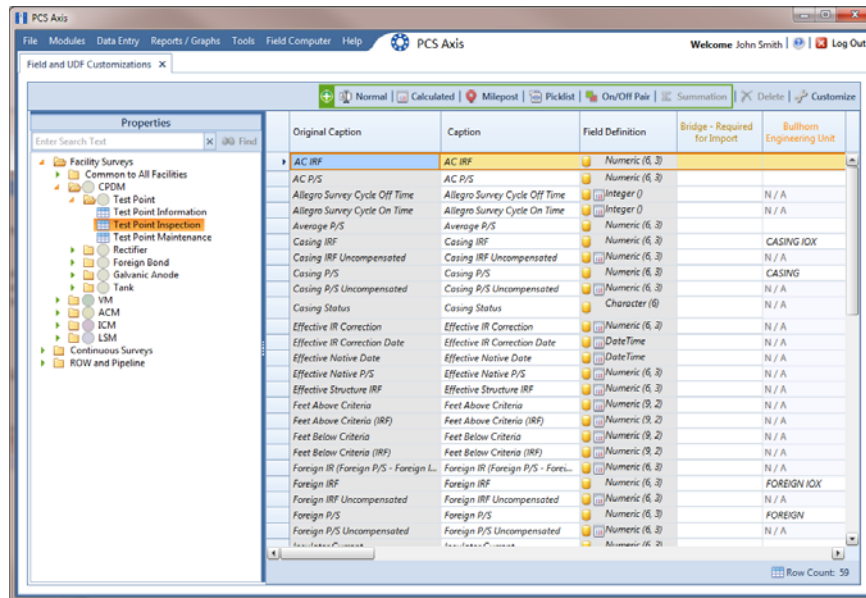

Figure 3-44. Field and UDF Customizations
- 1 Click **Tools > Field and UDF Customizations** to open the *Field and UDF Customizations* window (Figure 3-44).
- 3 Select an item in the *Properties* panel that includes the data entry grid you want to add a *Dynamic Picklist* UDF. For example, double-click **Facility Surveys > CPDM > Test Point > Test Point Inspection** to display a grid with fields and property settings related to the *Test Point Inspection* data entry grid (Figure 3-44).
- 1 If the *Field and UDF Customizations* window is not open, click **Tools > Field and UDF Customizations** to open the window (Figure 3-44, page 90).